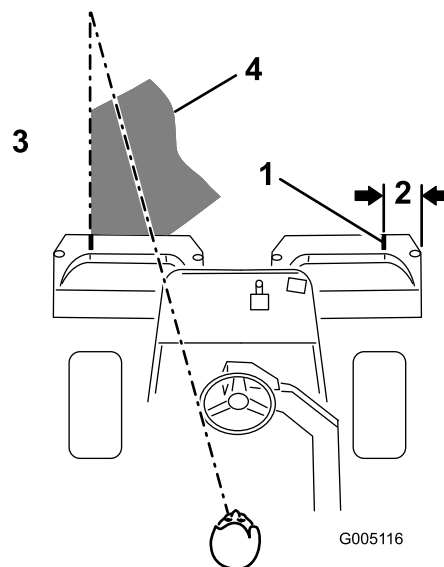

Figure 40
3. Overlap a minimal amount with the previous cut on return passes. To assist in maintaining a straight line across the green and keep the machine an equal distance from the edge of the previous cut, establish an imaginary sight line approximately 6 to 10 ft (1.8 to 3 m) ahead of the machine to the edge of the uncut portion of the green (Figure 39 and Figure 40). Some find it useful to include the outer edge of the steering wheel as part of the sight line; i.e. keep the steering wheel edge aligned with a point that is always kept the same distance away from the front of the machine (Figure 39 and Figure 40).